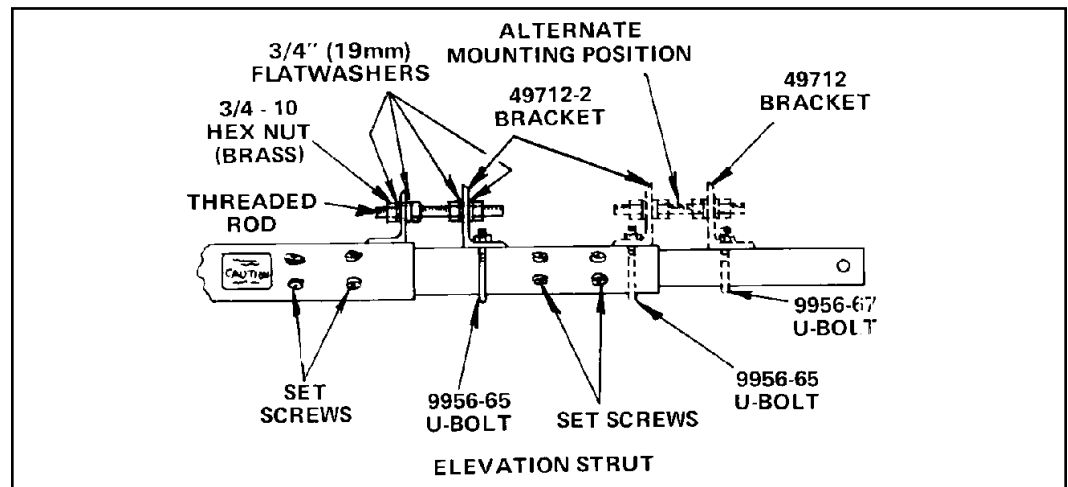

Figure 76
Step 8 **Fine Adjustment.** Attach fine adjustment assembly between adjacent elevation strut sections as shown in Figure 76 using appropriate brackets, U-bolts, brass hex nuts, flatwashers and threaded rod. Securely tighten all adjustment assembly hardware. **Note:** Adjustment assembly may also be attached in alternate position shown depending on required elevation angle.